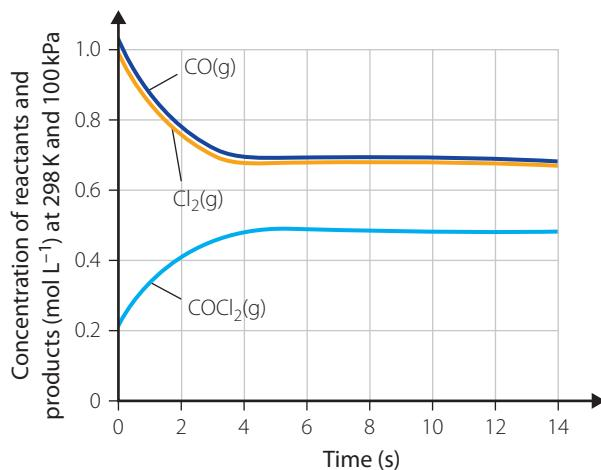

FIGURE 2.14 Concentrations of various chemical species over time
- ▶ 5 Figure 2.14 shows the concentrations of various chemical species over time.